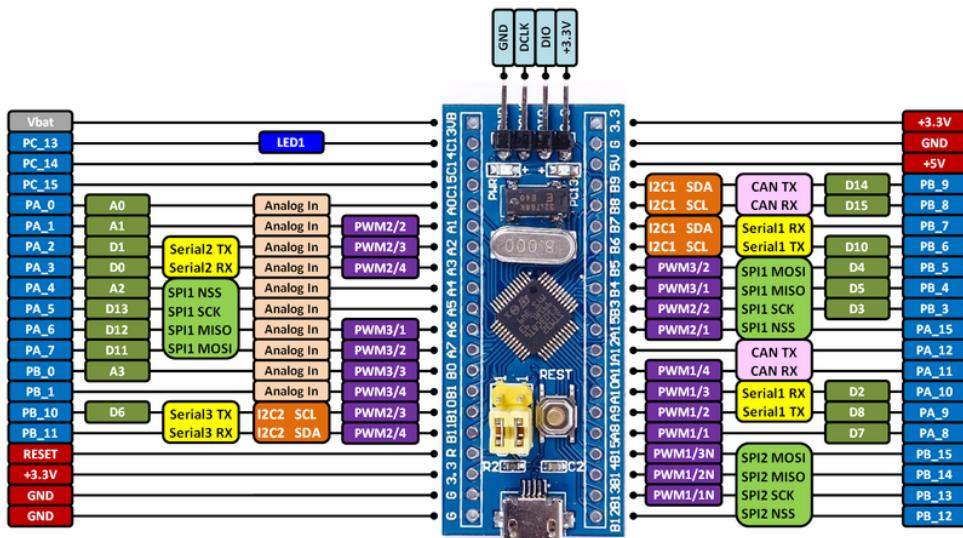

Fig. 12.1: Pin Connections of STM-32
1. The STM32F103C8T6 micro-controller in Fig. 12.1 has two ground pins, few analog input pins and few digital pins that can be used for both input as well as output. It has one Vcc (3.3V) pin that can generate 3.3V. In the following exercises, only the GND, 3.3V and digital pins will be used.